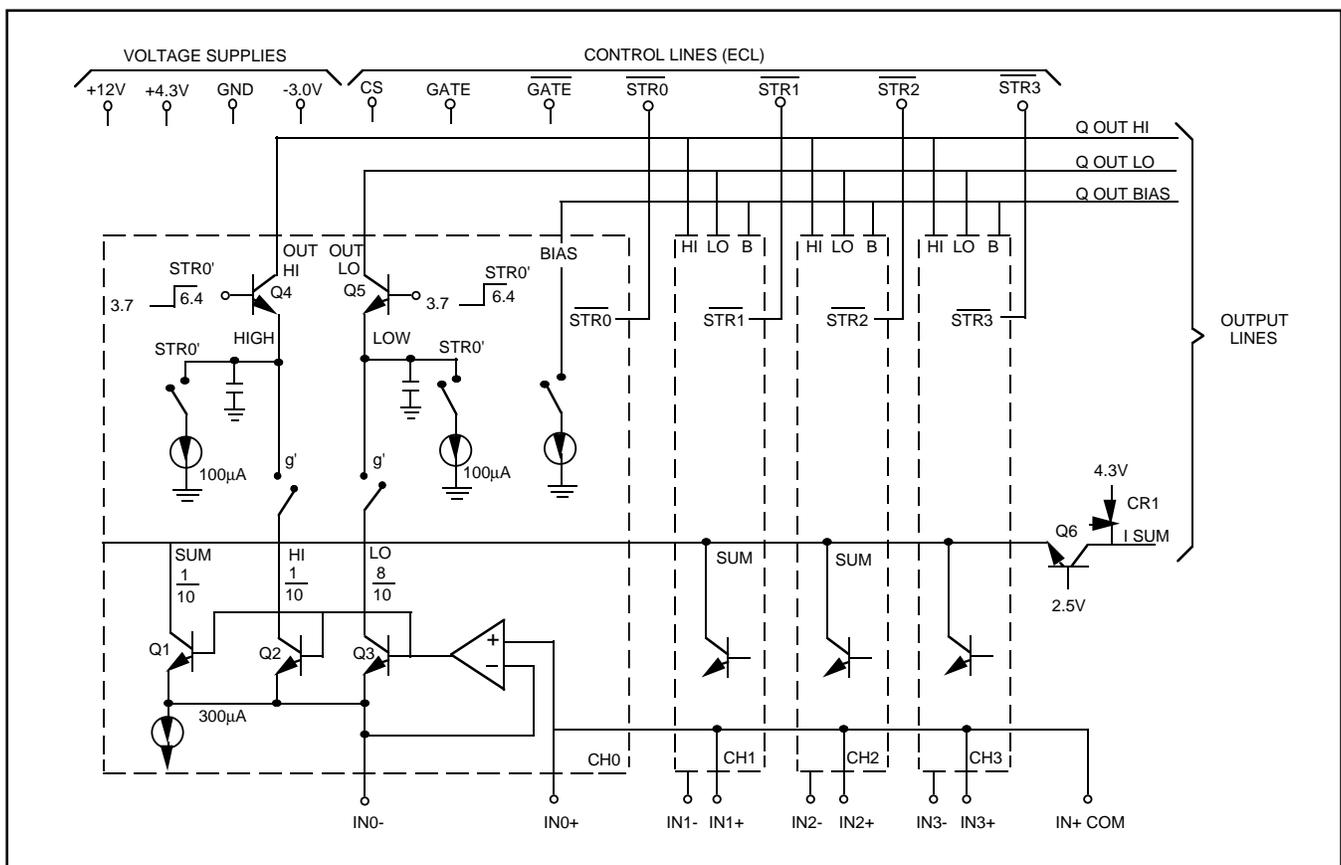

Figure 16
The MIQ401 Input Monolithic is a proprietary integrated circuit designed at LeCroy. It is a 4-channel integrate, hold and multiplex chip. The chip has four analog inputs and three analog outputs. The input signals are integrated for the duration of the gate control signal. The result is held on capacitors internal to the chip for up to a millisecond with no significant droop. At any time after the chip gate is off, any one of the channels may be multiplexed to the common analog output pins to be routed to a common analog-to-digital converter circuit. The output channel is selected by one of the four strobe control lines (STROBE0 to STROBE3). To facilitate the use of many chips, a chip select control line (CS) is provided on the chip. An equivalent circuit diagram of the MIQ401 chip is shown in Figure 16 (see "A 4-Channel Charge Multiplexer Monolithic Integrated Circuit (QMUX) for Use in Large Scale ADC Systems", J. J. Mueller, L. B. Levit and H. Petersen, presented at the 1985 Nuclear Science Symposium, San Francisco, CA, October 1985 and published in IEEE Transactions in Nuclear Science, 33, No. 1, 1986, p. 897-902).